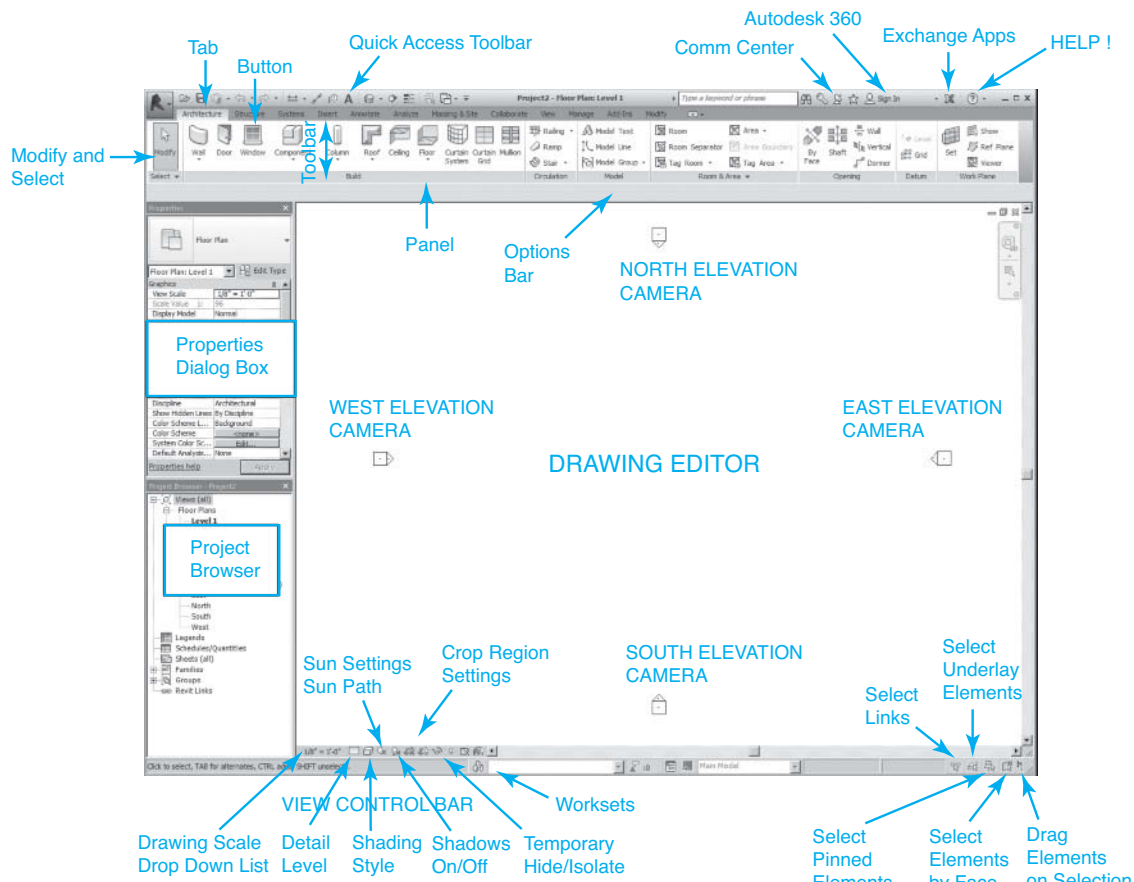

Figure 2-2
3. The **Revit Architecture** interface will appear, and you will be ready to work (see Figure 2-2).